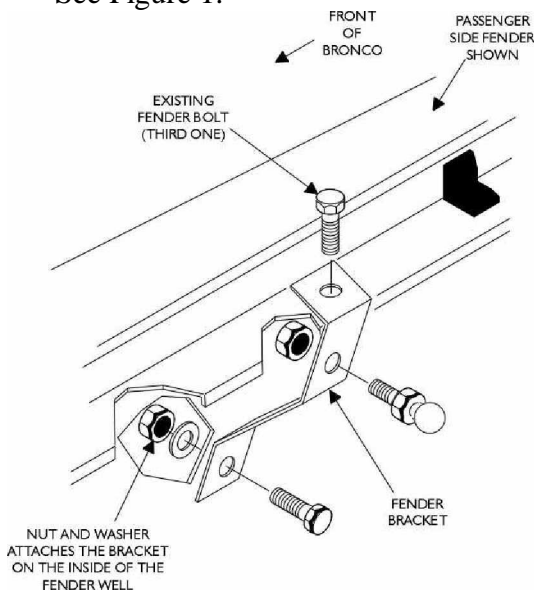

Figure 1
1. Install the ball studs and nuts on the large (fender) bracket in the center hole with the ball stud to the outside. See Figure 1.
6. Install the 1/4"x20x3/4" bolt thru the bracket and secure it with the washer and nut from the inside (tire) of the fender well. Tighten fender bolt and bracket hardware. See Figure 1.